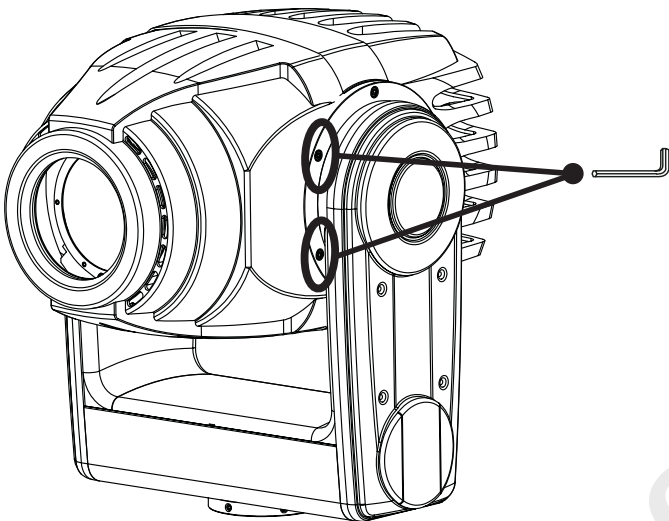

Fig. 1
- 1. Loosen the two screws shown in Fig.1 on both sides of the fixture